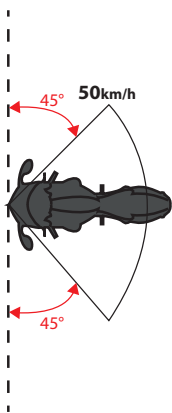

Figure 3
**In Street Mode, Envelope of Protection for Crashes Where a Motorcycle Strikes a Vehicle or Obstacle (Figure 3):**
Impact Angle (Fig 3)	From 45° to 135°
**IMPORTANT!** Figure 3 outlines the Envelope of Protection where the Tech-Air® 5 System is expected to inflate before the user's body contacts an obstacle. At speeds above 25km/h the System will deploy regardless of the impact angle, but outside the Envelope of Protection the System may not be fully inflated before there is contact between the obstacle and the user.